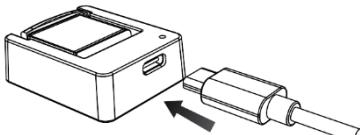

Figure 3.2 Diagram of pump battery charging
- Insert the pump battery into the charger diagonally (as shown in Figure 3.2) and press down until you hear the "click" sound to confirm that it is in place.